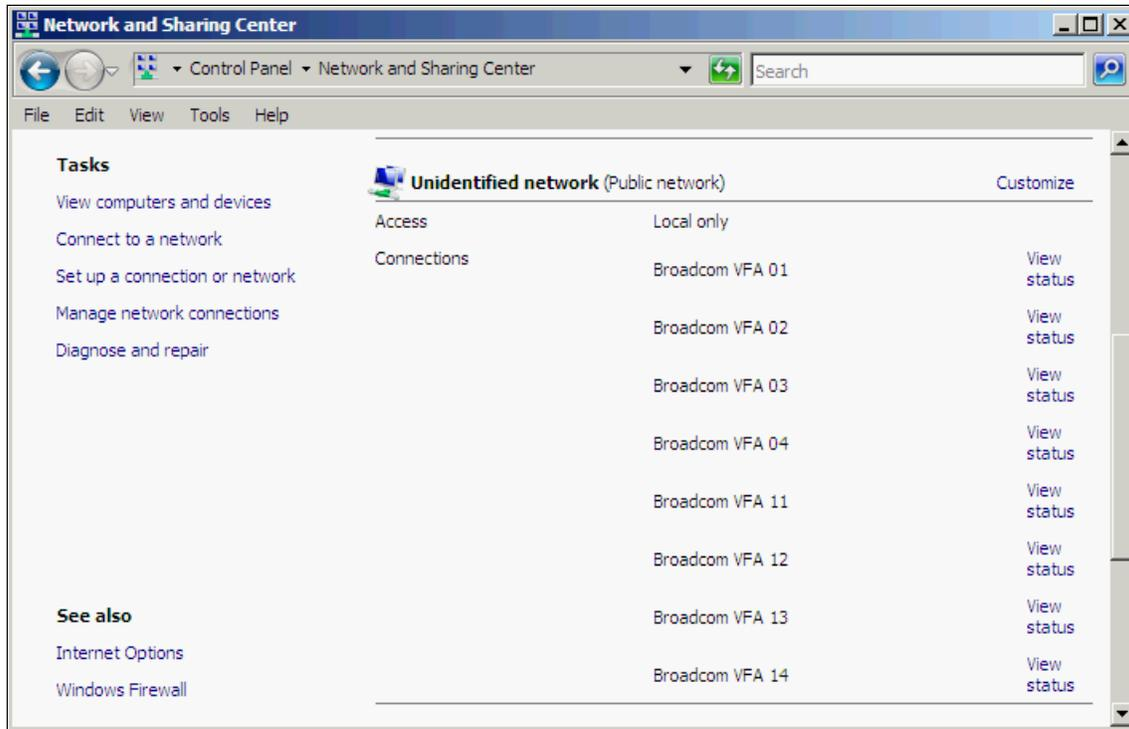

Figure 10-52 Broadcom Virtual Fabric Adapter NIC partitions in Windows Server 2008
Figure 10-52 shows the NIC partitions in the Network and Sharing Center.
1. In the Network and Sharing Center window (Figure 10-52 on page 294), click **View Status** for each partition.